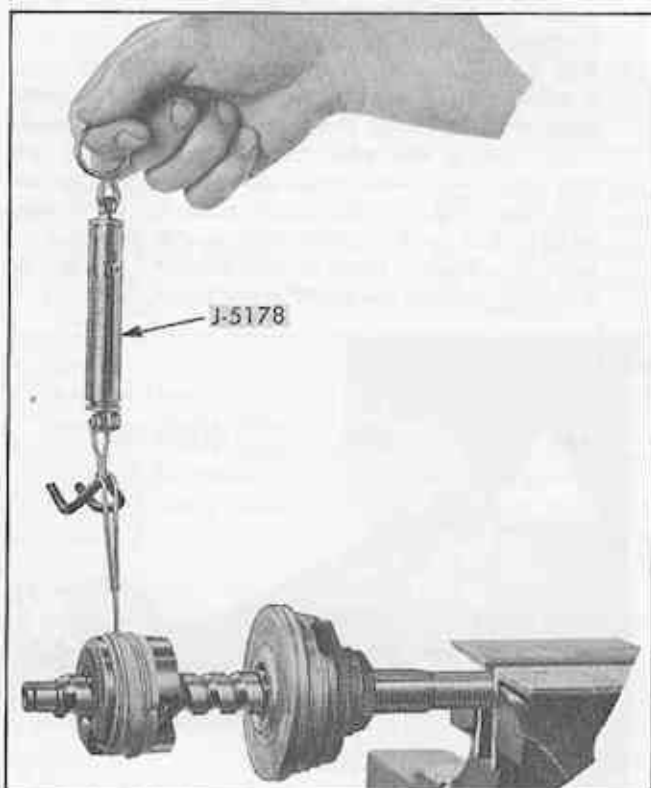

Fig. 75 Measuring Preload of Ball Nut Using Tool J-5178
5. The worm groove is ground to provide a "High Point" through center. To measure preload, clamp worm in a vise using soft jaws, fasten a cord to ball nut and wind it around two or three times. Using spring scale J-5178 (Fig. 75) slowly pull, unwinding the cord and rotating ball nut over "High Point". Reading after nut has started to rotate should be between two and six lbs. If preload is below two lbs., install set of next larger balls and recheck (see table). If preload is over six lbs., install next smaller size balls and recheck. NOTE: Ball size used in original assembly is marked on outer diameter of ball nut. Due to wear or use of new parts, it is sometimes necessary to use a size different than indicated.